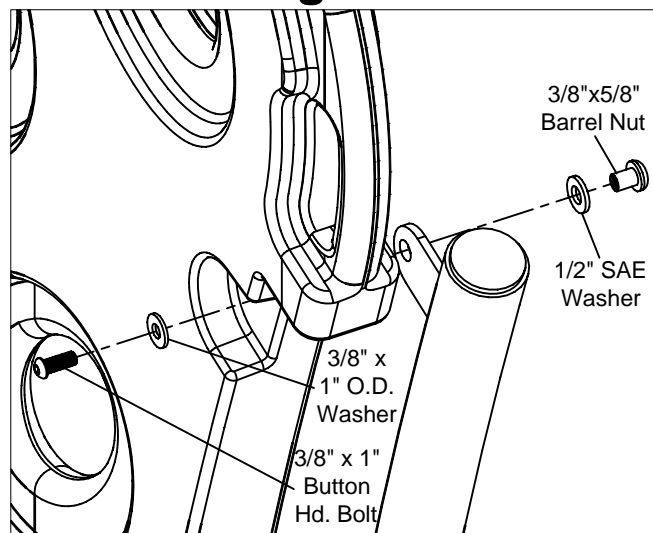

Figure 2
Dig (2) 12" Dia. footing holes approx. 30" deep (See Figure 2). See Plan View for locations.